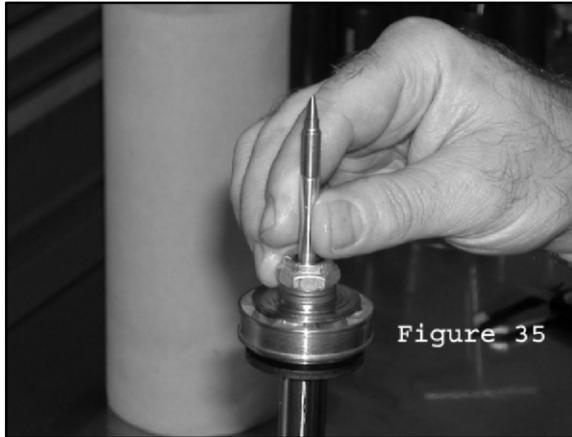

Figure 35
68. Lubricate the flat end of the metering rod with a small amount of assembly lube. Insert metering rod, flat end first, into the shaft. (Fig. 35) Push needle down into the shaft with a blunt object, until you feel the metering rod push past the o-ring seal. Install the shaft jet using a torque driver. Torque jet to **40 in.lbs. (4.5 Nm)**. Remove shaft assembly from vice and set it aside on a clean, lint free paper towel.